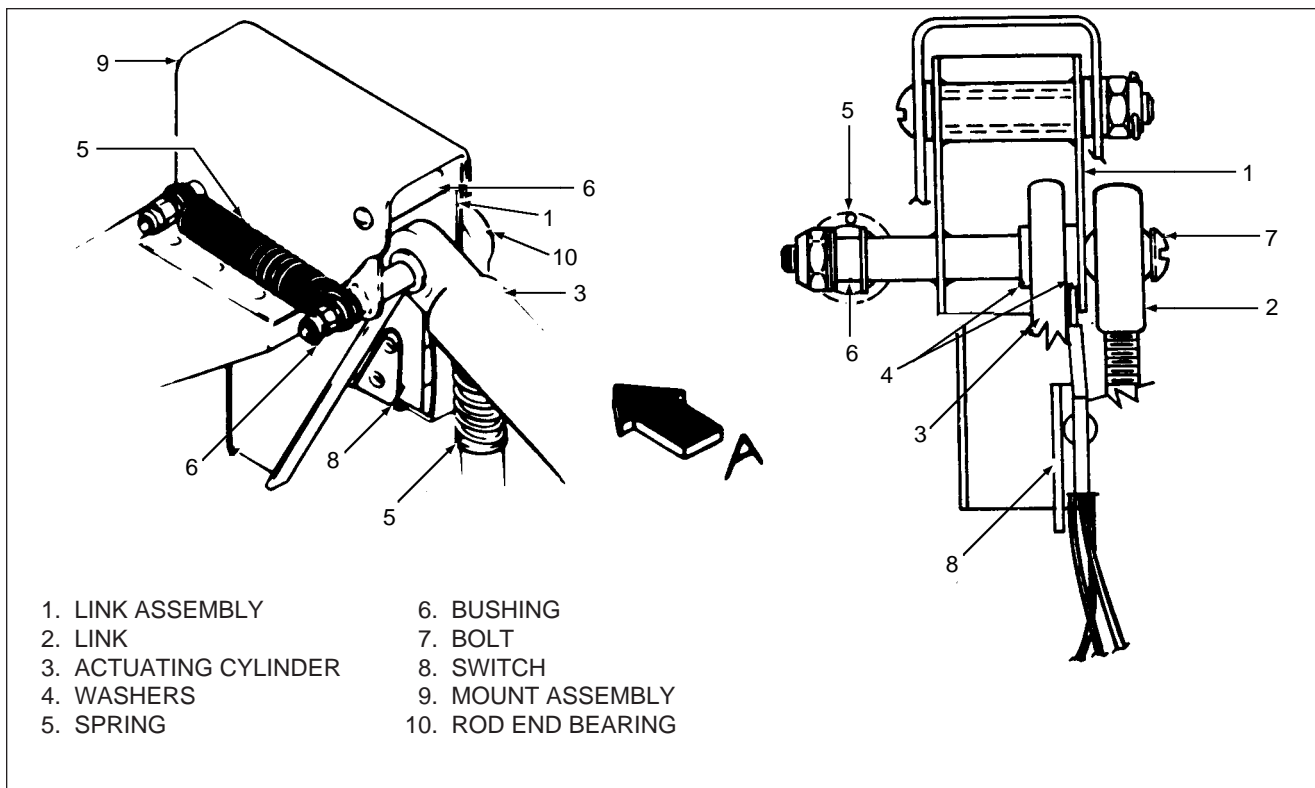

Figure 29-10. Nose Gear Actuating Cylinder Installation
INSTALLATION OF NOSE GEAR ACTUATING CYLINDER (Refer to Figure 29-10)
1. Refer to REMOVAL OF NOSE GEAR ACTUATING CYLINDER, step 4. Remove bolt far enough to position clevis end of actuating cylinder in the link assembly. Insert bolt with callouts arranged as illustrated in Figure 29-10.